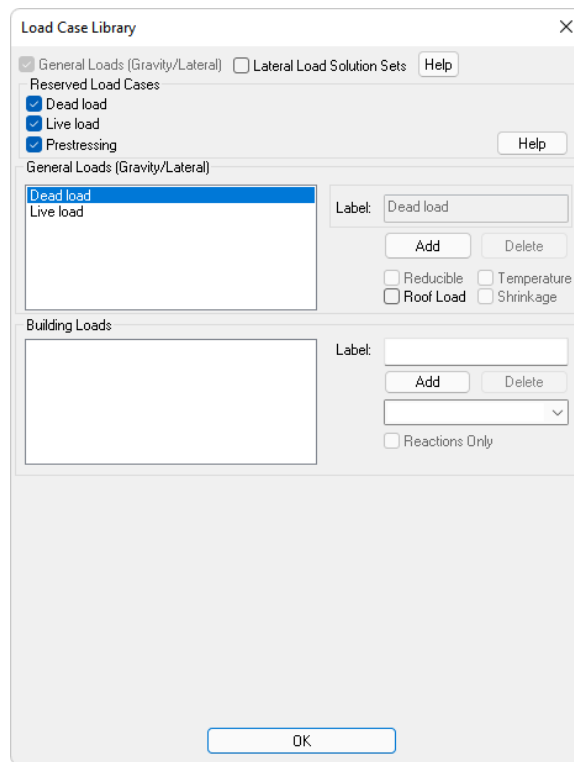

FIGURE 2-19
- Click on the **Load Cases** icon. This will open the *Load Case Library* window from **FIGURE 2-19**.
- By default, the program already adds *Dead load* and *Live load* cases as shown in **FIGURE 2-19**. These are default program load cases that cannot be modified. Note: The dead load case does not include self-weight. Self-weight is determined by the *Wc* value in the *Concrete Material* properties window and area of concrete modeled and assigned to that material.
- Click on the check box next to **Roof Load**. This sets this load case as a roof load so we can automatically generate load cases including the roof live load when the time comes. Notice roof load cases are denoted by (LR) being appended to the load case name.